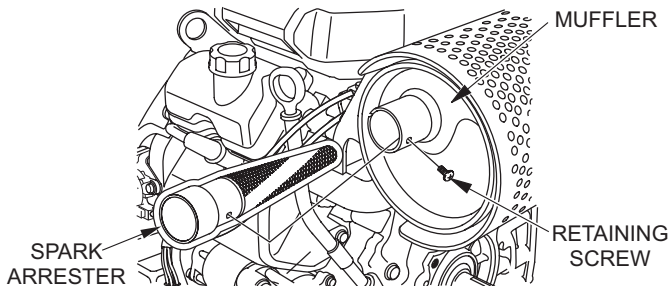

Figure 43. Spark Arrester Removal
1. Remove retaining screw (Figure 43) that secures spark arrester to muffler, then remove spark arrester.